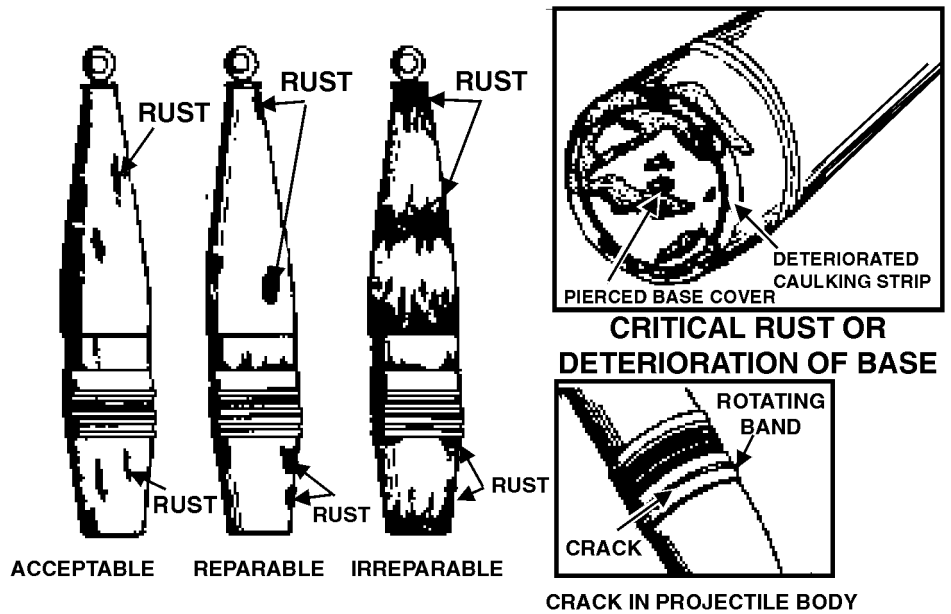

Figure 3-14. Projectile Rust and Deterioration.
3.9.1.2 Projectile rust and deterioration (fig. 3-14).